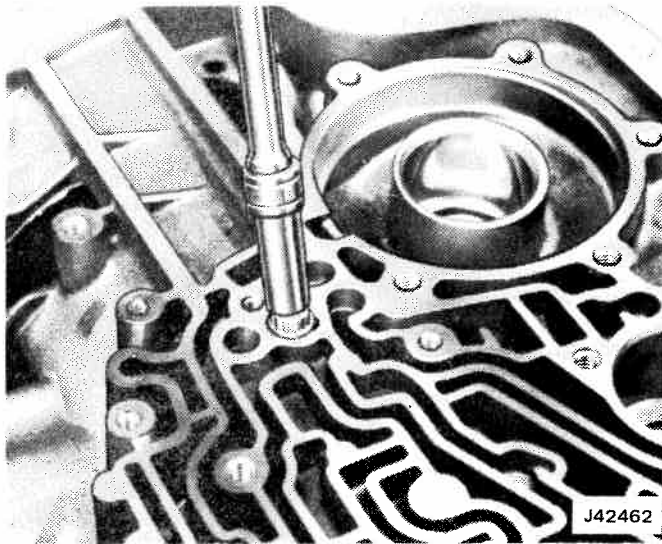

Fig. 7-32 Removing Center Support Bolt
(1) Remove bolt which secures center support to case, using a 3/8 inch 12-point thin wall deep socket (fig.7-32).